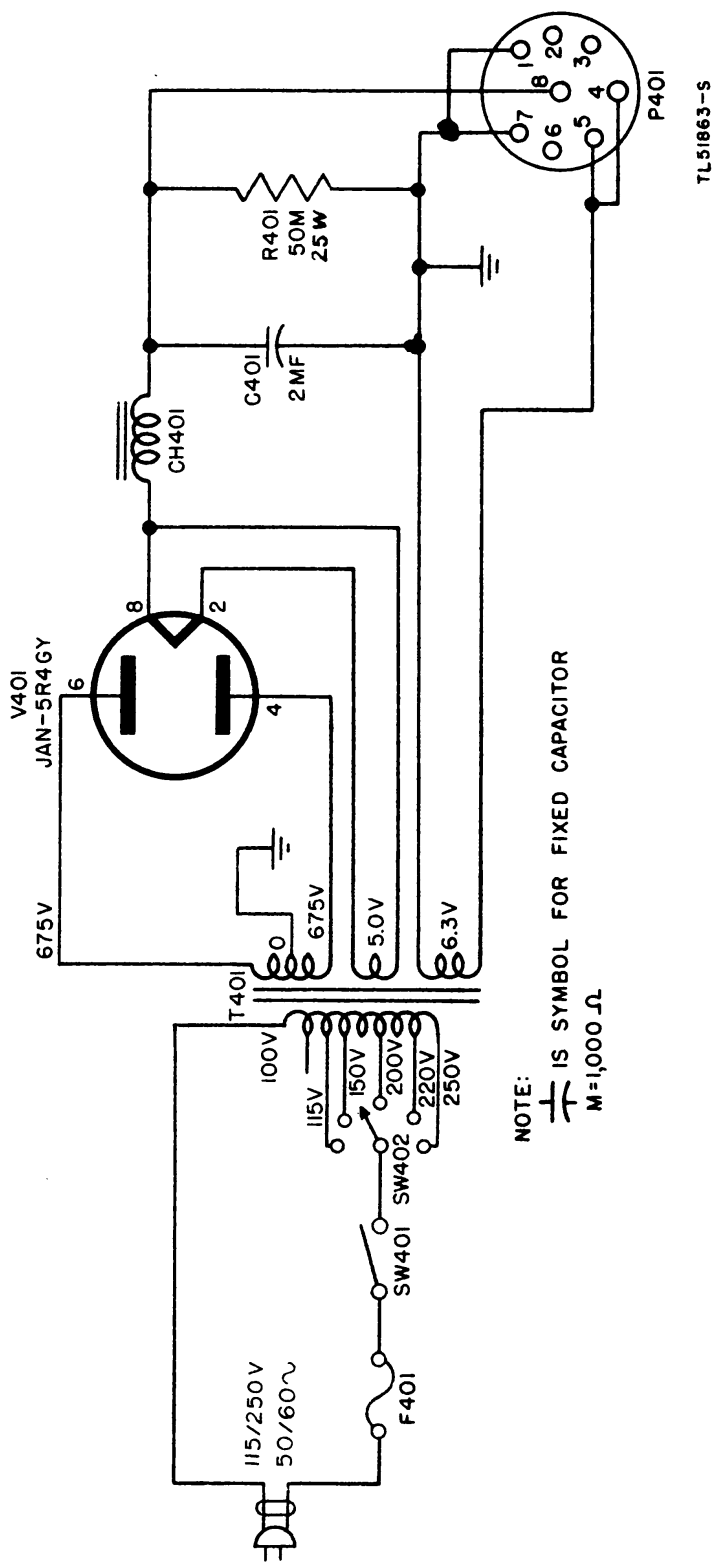

Figure 39. Rectifier Power Unit PP-74/TRC-10, schematic diagram.
a. The rectifier circuit (fig. 39) uses a Tube JAN-5R4GY (V401) in a conventional full-wave rectifier circuit. One side